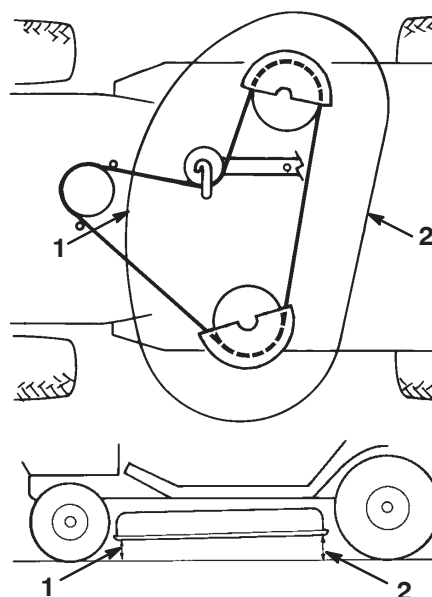

Figure 51
7. Check the front-to-rear slope by measuring between the bottom of the mower (front center and rear center) and the flat surface (Fig. 51). If the front is not within a range of 1/8 to 3/8 in. (4 to 11 mm) lower than the rear, an adjustment is required.
10. After adjusting both eyebolt locknuts evenly, check the front-to-rear slope again. Continue adjusting the eyebolts until the front blade tip is 0 to 3/8 in. (0-9 mm) lower than the rear blade tip (Fig. 51).